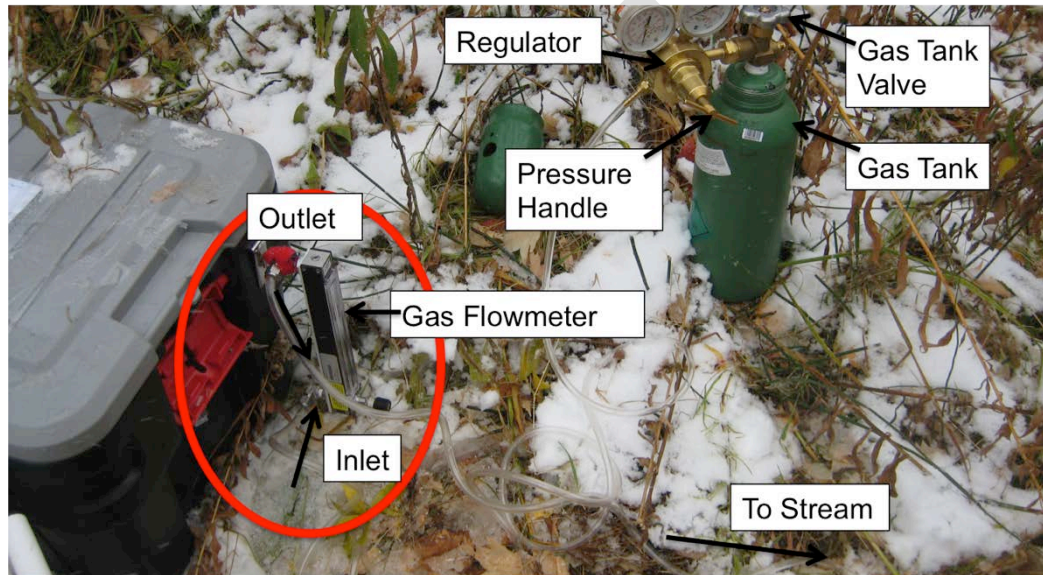

Figure 6. Gas tank, regulator, and flowmeter field set-up.
- i. At the injection site, set-up the SF₆ gas tank, regulator and flowmeter (Figure 6).